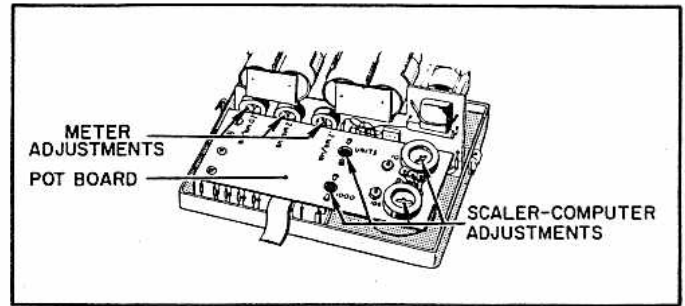

Figure 3. Calibration & Adjustment Potentiometers
### Meter Adjustments (figure 3)
### Scaler-Computer Adjustments (figure 3)
Adjust the calibration controls (figure 3) until the MR/HR Meter reads the same intensity plus the background count.
Adjust the control marked "20 MR/HR" under the front panel (see figure 3) so MR/HR Meter reads 20 MR/HR, or full-scale deflection.
4. Adjust control marked "UNITS" (see figure 3) on back panel, until all unit lamps are counting. Then back off adjustment until the bulbs just stop counting.